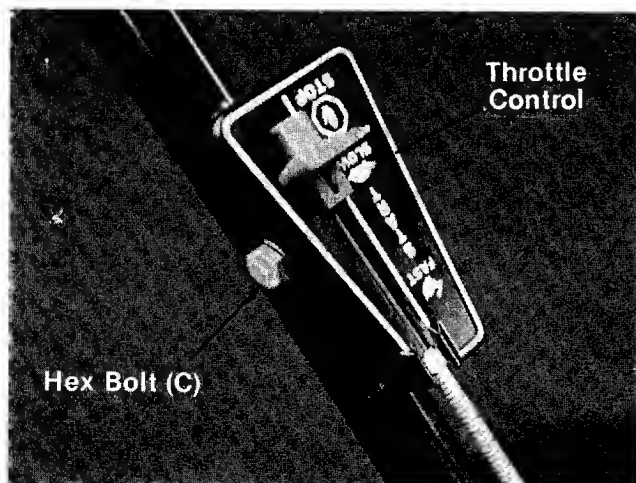

FIGURE 5.
5. Place the throttle control in position on the left hand side of the upper handle. Secure with hex bolt (C) and hex lock nut (D) provided. See figure 5.